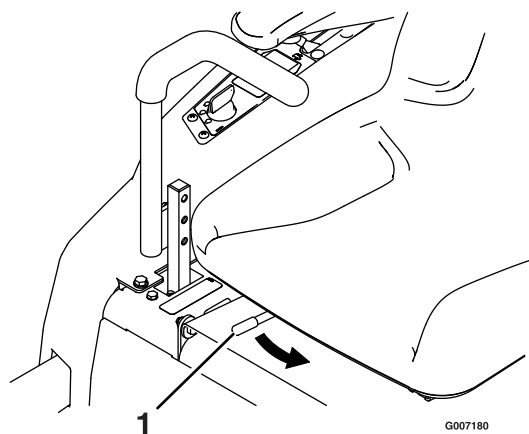

Figure 17
1. Push the adjustment lever towards the center of the machine to release the seat adjuster track (Figure 17).